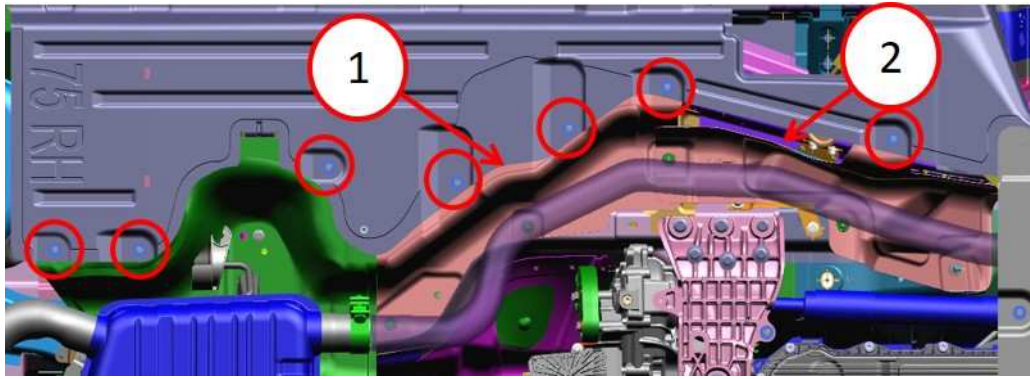

Fig. 5
2. Remove the seven inboard right hand aero shield to heat shield fasteners (Fig. 5) .
11. Install the seven inboard right hand aero shield to heat shield fasteners (Fig. 5) . Tighten three aero shield screws to 6 N·m (53 in. lbs.) and one belly pan screw to 2 N·m (17 in. lbs.).